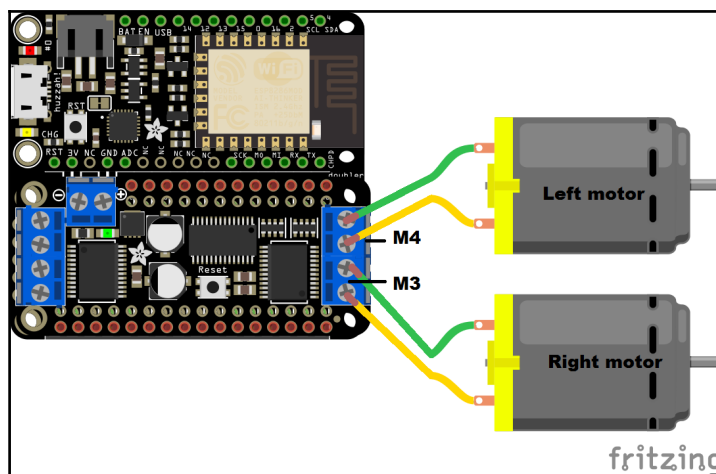

Figure 6.22: Wiring the gear motors with the DC Motor FeatherWing
6. Connect the wires from the gear motors with the DC Motor FeatherWing. Connect the left motor with the M4 terminal block and the right motor with the M3 terminal block (Figure 6.22):